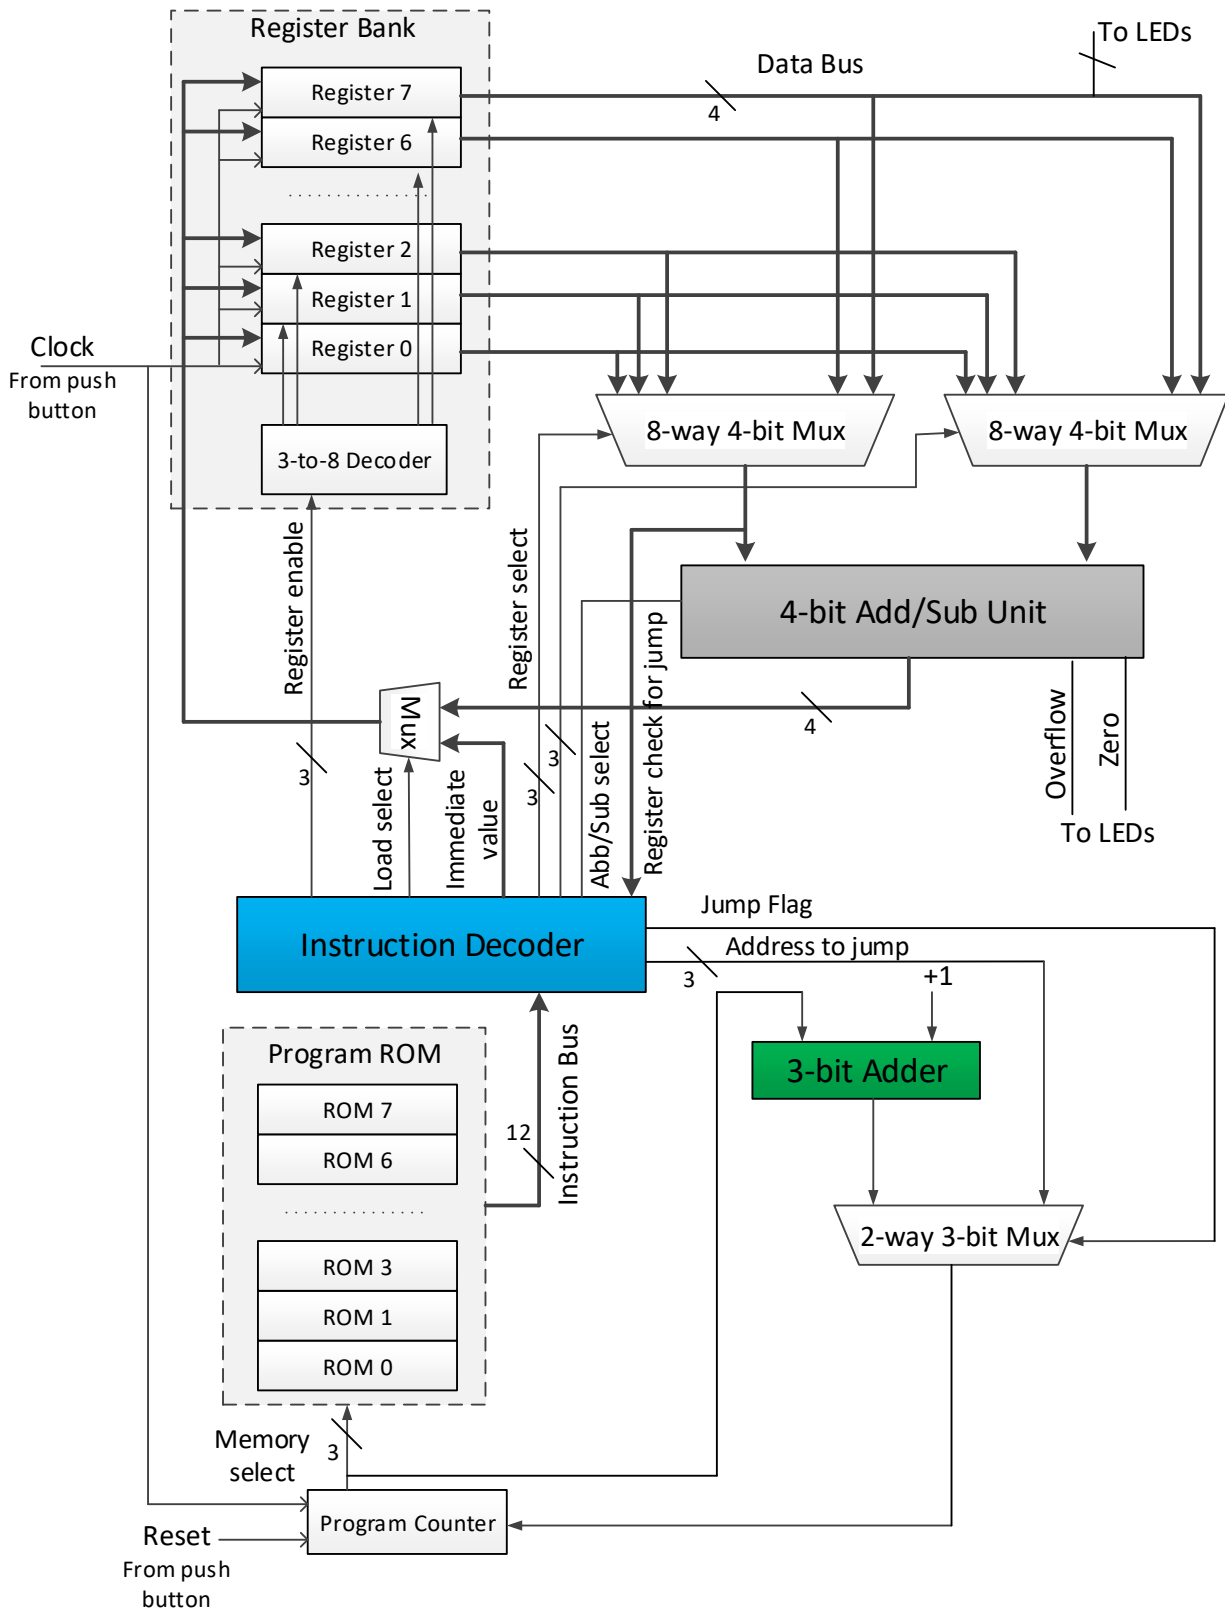

Figure 1 – High-level diagram of the nanoprocessor.
We will design a very simple microprocessor (hence, called a nanoprocessor) capable of executing a simple set of instructions. Block diagram of the nanoprocessor is given in Fig. 1. Set of instructions supported by the nanoprocessor is given in Table 1. To build this circuit we need to develop/extend several components/modules:
- As we do not have a separate instruction to reset a register, we will use D Flip Flops with a clear input and connect the clear input to Reset button (not shown in Fig. 1 for simplicity). This could be connected to the same push button connected to the Reset input of Program Counter (see Fig. 1)